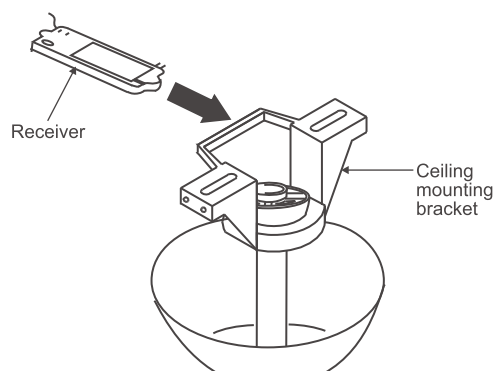

Fig 9
Step 1. Insert the receiver into the ceiling mounting bracket with the flat side of the receiver facing the ceiling. (Fig. 9) For best performance, make sure the White Antenna, on the end of the receiver, remains extended and not tangled with any of the electrical wires.
Secure each set of wire connections with the wire nuts provided in the part bag. (Fig. 9)